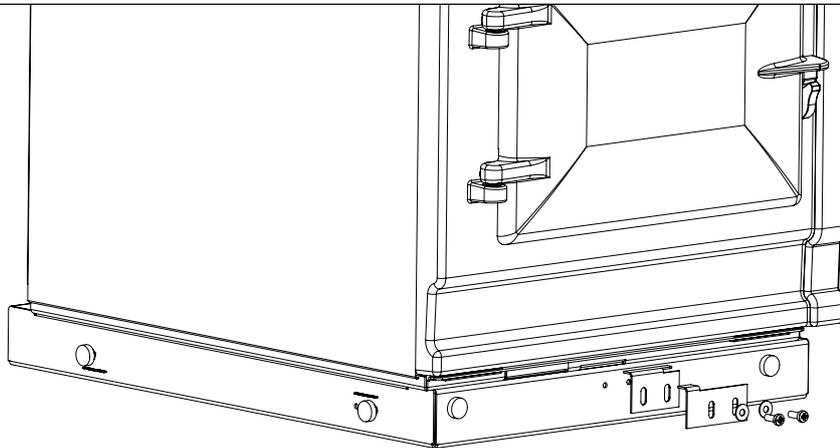

Fig. 30.1
1. Detach hotcupboard from plinth by removing two screws and tongue bracket from plinth (**Fig. 30.1**), slide hotcupboard forwards and away from rear fixing bracket (**Fig. 30.2**).